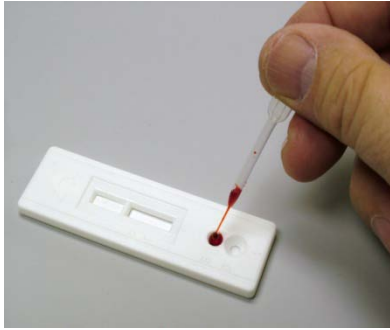

Figure 4
1. Dispense 1 drop (10µl) of whole blood to the “S” well of the test cassette using the plastic pipette provided, according to the illustrations above. (Figure 4)